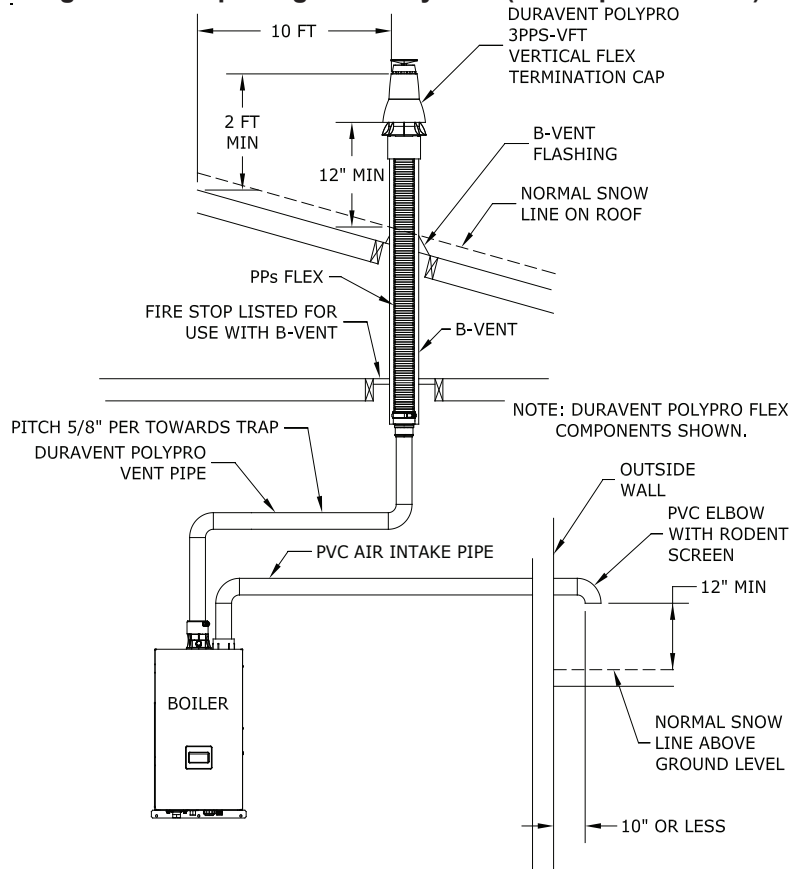

Figure 7.23: Split Vent System (Flex in B-Vent Chase) Vent Options 15-17)
4. Use of abandoned chimneys as a Vent Chase for flexible Polypropylene Venting (Options 15-17) – Vent options 15-17 permit flexible Polypropylene venting to be routed to the roof using an abandoned masonry or B- vent chimney. In these applications combustion air is drawn horizontally from a wall terminal. See Figure 7.23 or 7.24a. When using one of these vent options, observe the following requirements: